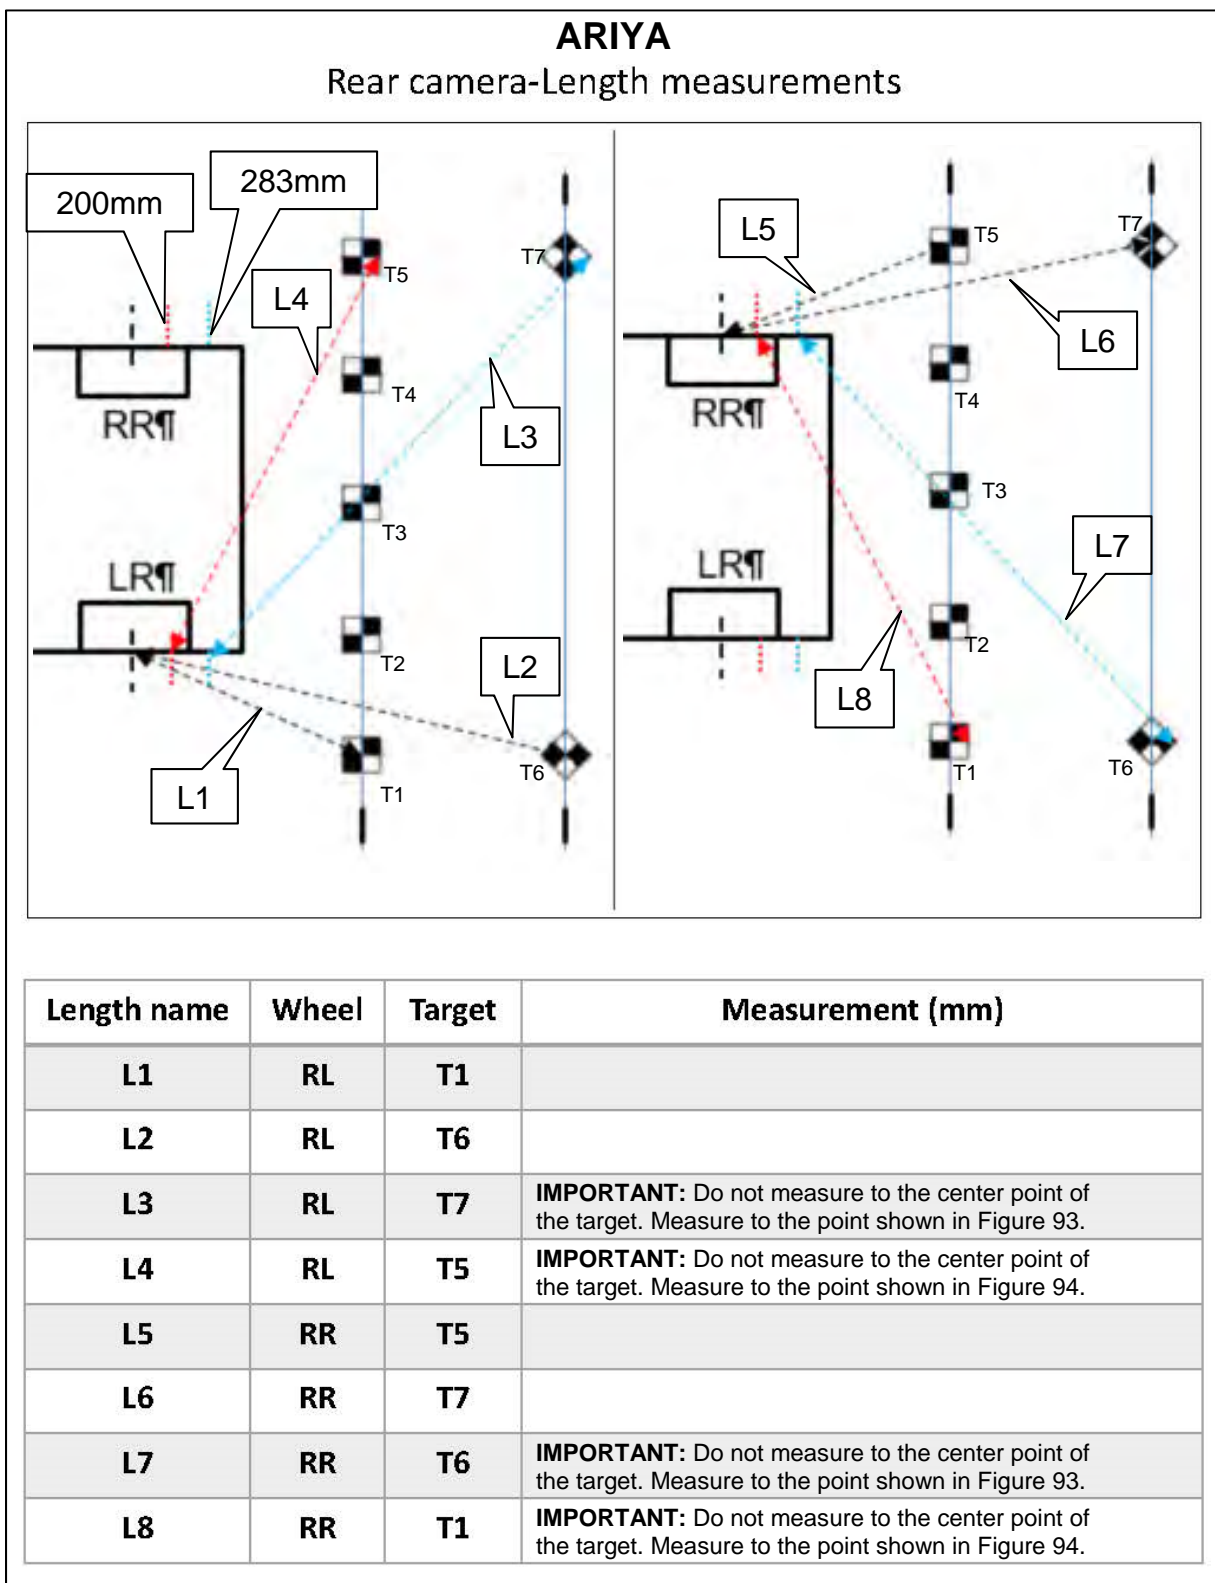

Figure 107
IMPORTANT: All measurements must be in millimeters (mm). Refer to the illustrations in Figure 107 on page 57 to ensure the correct measurement is documented in the correct order and for each calibration target.
68. Measure the distance between the center point of the driver (LH) side rear wheel to the center of the calibration target T1, and then document that distance as L1 in Figure 107 on page 57.
69. Measure the distance between the center point of the driver (LH) side rear wheel to the center of the calibration target T6, and then document that distance as L2 in Figure 107 on page 57.
70. Measure the distance between the 283 mm mark of the driver (LH) side rear wheel to the most rearward point of the calibration target T7, and then document that distance as L3 in Figure 107 on page 57.
71. Measure the distance between the 200 mm mark of the driver (LH) side rear wheel to the most rearward point of the calibration target T5, and then document that distance as L4 in Figure 107 on page 57.
72. Perform steps 68 - 71 starting on page 54 for the passenger (RH) side rear wheel measurements L5-L8, and then document the distances in Figure 107.